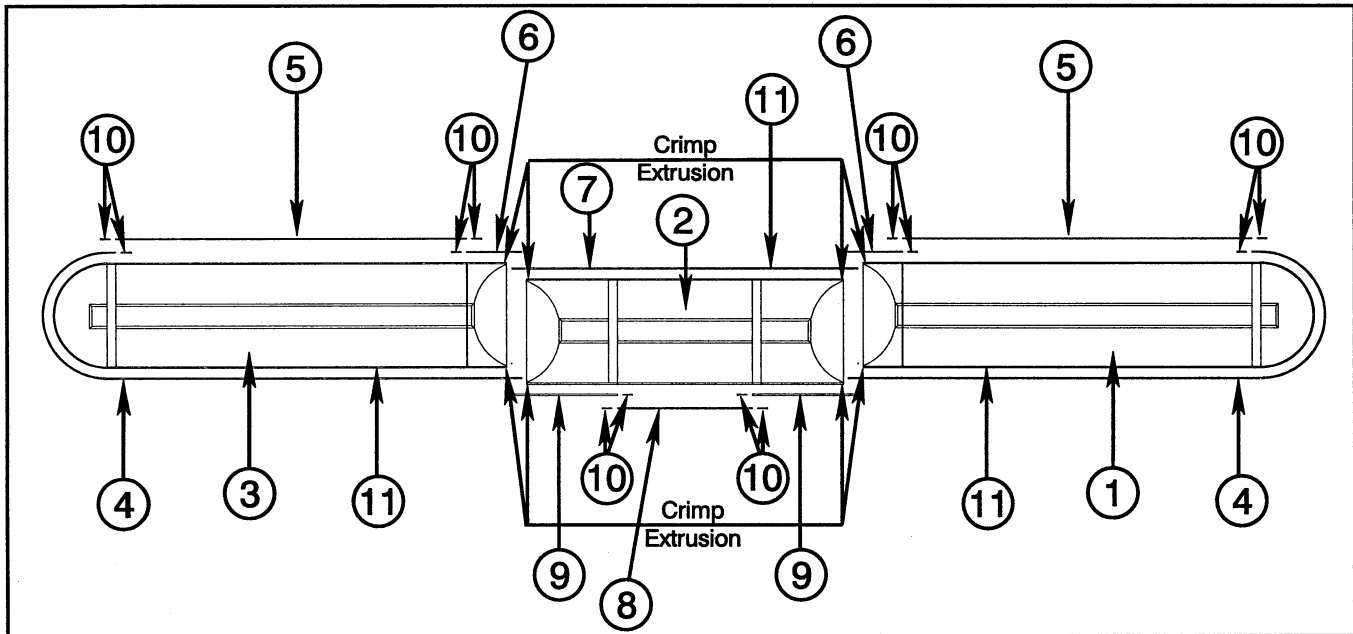

FIG. 14
1. Assemble the Drift Seal sections into the Retainer Molding slots located on the lower edge of the Boom. The longer pieces will be easier to install if a light lubricant such as liquid soap or a silicone based product (i.e. Armour All) is used. (FIG. 14) The end of the Drift Seal at the Hood opening should be flush with the Drift Seal Retainer Molding.
2. Screw (12) #10 x 2" Drift Seal Retainer Screws into ends of curtain, setting head of screw flush with Retainer Molding. Where screws can not be used, crimp the end of the Retainer Molding 1/8" using Vice Grip pliers with tape on jaws to prevent scuffing of the molding.